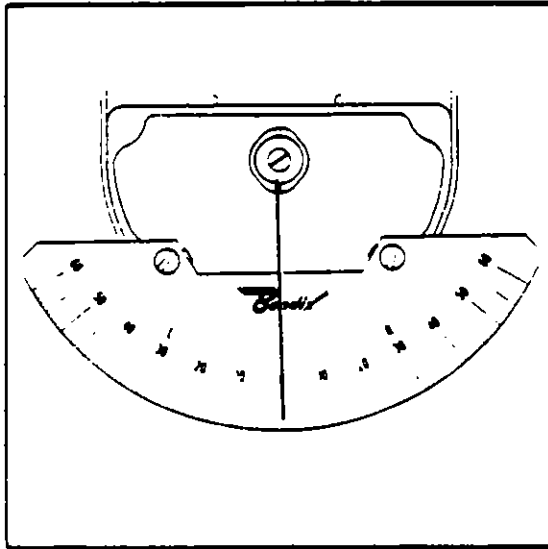
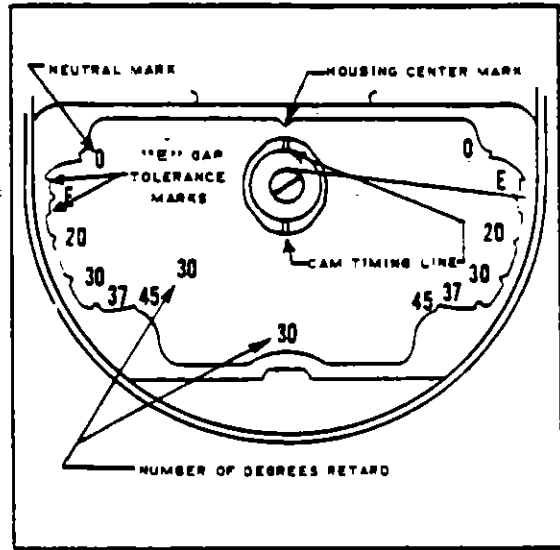

FIGURE 7-13. TIMING PLATE INSTALLED ON BREAKER COMPARTMENT
FIGURE 7-14. BREAKER COMPARTMENT WITH CAST TIMING MARKS
a. Install timing plate and pointer on magnetos without timing marks cast in the breaker compartment (refer to Figure 7-13) or just the pointer on magnetos with timing marks cast in the breaker compartment. (Refer to Figure 7-14.)